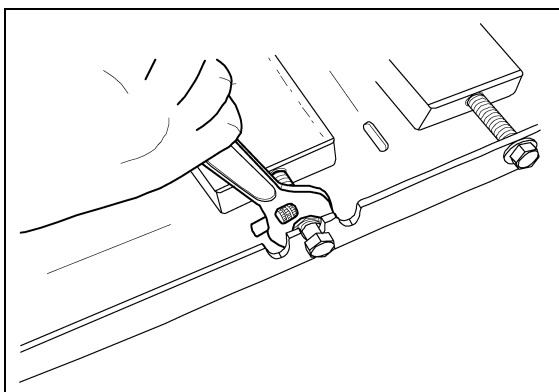
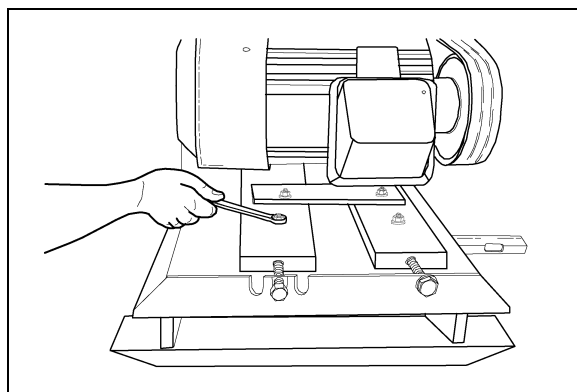

Figure 4J
Figure 4K
6. Keeping the motor in proper alignment is necessary and can be accomplished by using an open end wrench to turn the nut on the opposite motor mount channel, moving the channel either direction until proper alignment is achieved. Squaring up the motor can change the tension of the belts. Recheck alignment and tension. Finish Step 4 by tightening the four 1/2" bolts left loose earlier. (See Figure 4J and Figure 4K).